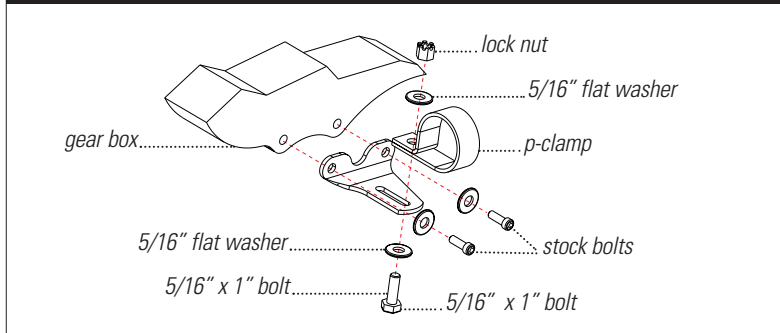

FIGURE 2
1. Remove two lower gear box cover hex head screws and install bracket using stock hex bolts and washers (see Fig. 2). Clamp will be mounted later.
5. Install heavy duty P-clamp, supplied, onto lower headpipe (see Fig. 2). Install 5/16" x 1" bolt with 5/16" washer and lock nut, all supplied. **DO NOT TIGHTEN.**